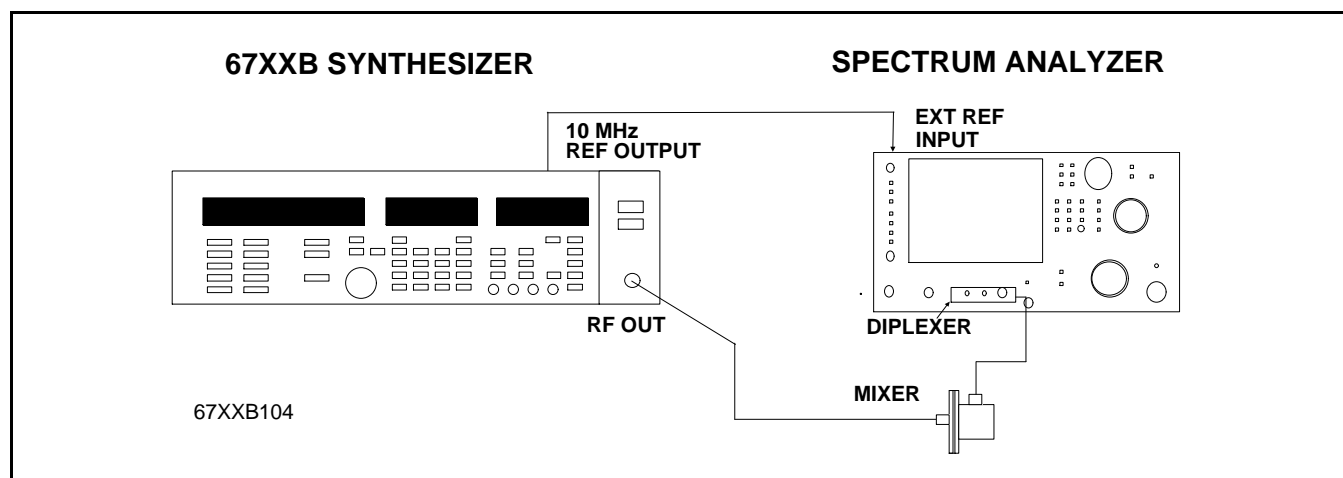

Figure 2-23. Equipment Setup for Pulse Modulation Test: RF ON/OFF Ratio (20 to 60 GHz)
1. Connect the equipment, shown in Figure 2-23, as follows: